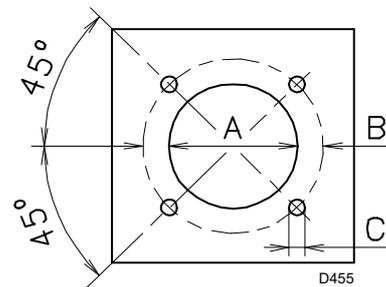

Fig. 14
Drill the combustion chamber locking plate as shown in Fig. 14 (Tab. I). The position of the threaded holes can be marked using the thermal screen supplied with the burner.
- Fit the entire burner onto the boiler hole prepared previously (Fig. 14), and fasten with the screws supplied.